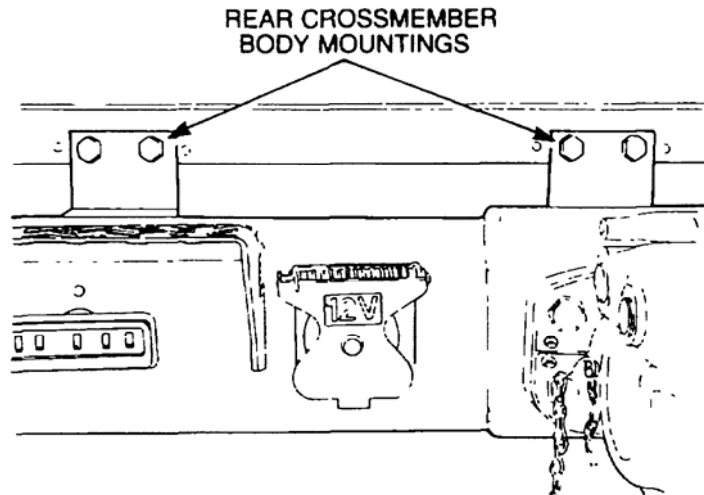

Figure 17 Rear Body Mountings
- tt.** Remove the ten bolts securing the body to the rear crossmember (Figure 17).
- k.** Install the ten bolts that retain the body to the rear crossmember (Figure 17). Tighten these bolts and all other body retaining bolts securely.